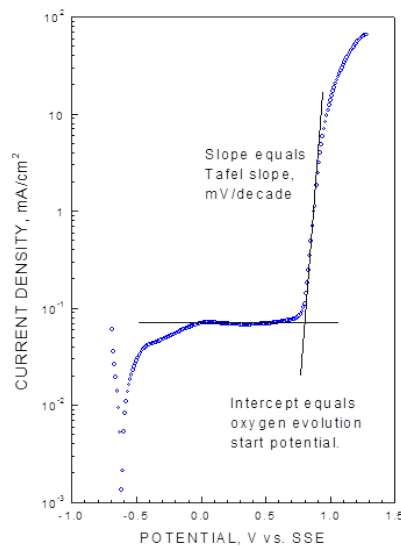

Figure 2. Analysis of the polarization curve.
where  $E_{op}$  is operating potential,  $E_{eq}$  is equilibrium potential,  $i$  is operating current density,  $i_0$  is exchange current density and  $b_a$  is Tafel slope. As equilibrium potential and exchange current density apparent values as shown in Fig. 2 can be used. The anode-dependent parameters in equation (1) are Tafel slope, equilibrium potential and exchange current density.